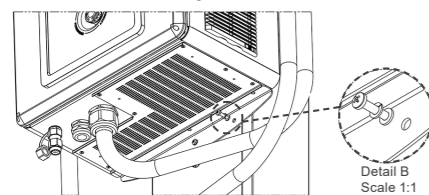

Figure 4.10: Example of lower bolt attachment
3. Start the attachment from the bottom part of the structure, using the three (03) existing points with three (03) M6 hex head bolts, as shown in Figure 4.10.